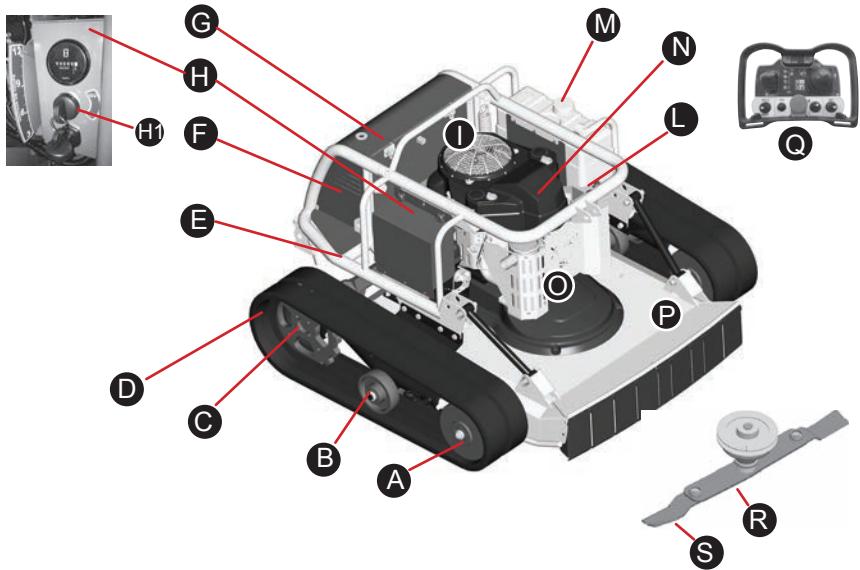
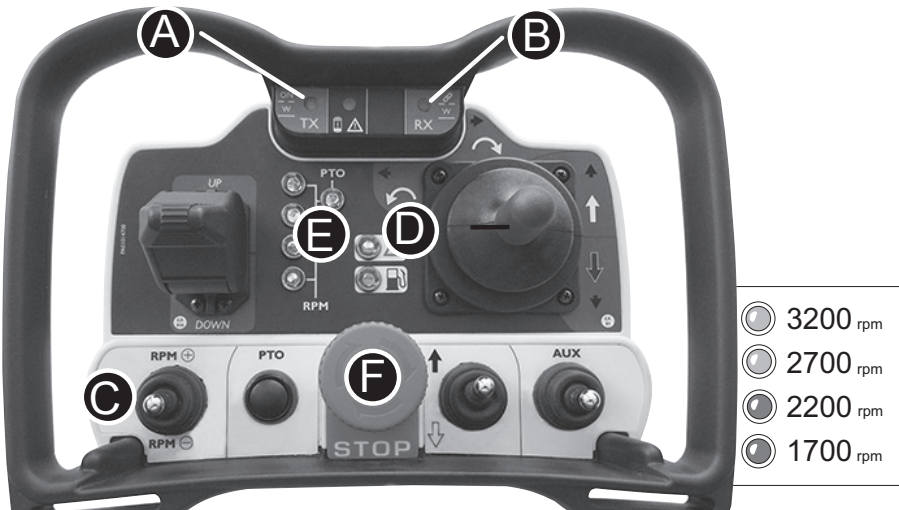

Fig 7
Fig 11
4.1 NAME OF MAJOR COMPONENTS (fig.7)
4.2 ENGINE (fig.7 - i)
4.2.1 AIR FILTER (Fig.7 - n)
The engine is equipped by an air filter. In case of dry grass and dusty environment the air filter have to be cleaned very often (every 2 hours). If some flying grass are trapped by the net of the recoil starter (Fig. 7 - i) it means that probably also the air filter need to be cleaned out. (see cap. 7.1.2). The clogging of the air filter can cause a lose of engine power. In normal condition, the air filter should be cleaned every day.
4.2.2 FUEL TANK (Fig.7 - m)
4.3 MOWER DECK (fig.7 - p)
Move the throttle lever up (Fig 10 (c)) up to the maximum. To start the engine at low temperature, pull the starter at the left hand side (Fig11.b). Push the button 2 and than the 1 (Fig.10 (2) and (1)) until the engine starts.
Now the engine speed can be adjusted and the value is shown from the warning light column (Fig 11 (E)).
5.3 ENGINE STOP (fig. 11)
To stop the engine push anytime the Red Alarm Button (Fig 11 (F)) and the engine will suddenly stop. Just after stop, remind to release the emergency Button in its normal position. The engine can be turned OFF also by Alarm Button on the top of the machine (Fig.7 (L)), turning the Star Key (Fig 7 (H1)) OFF or if the machine lose the Radio connection with the remote Control.